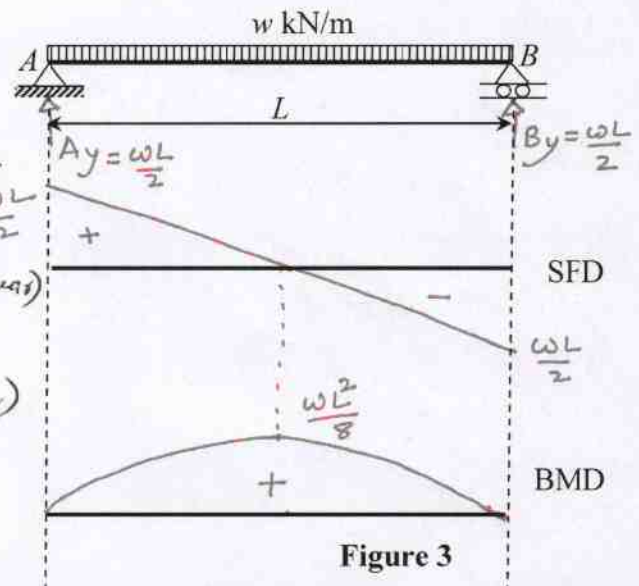

Figure 3
- (c) Draw Shear Force diagram (SFD) and Bending Moment diagram (BMD) of simply supported beam as shown in Figure 3.